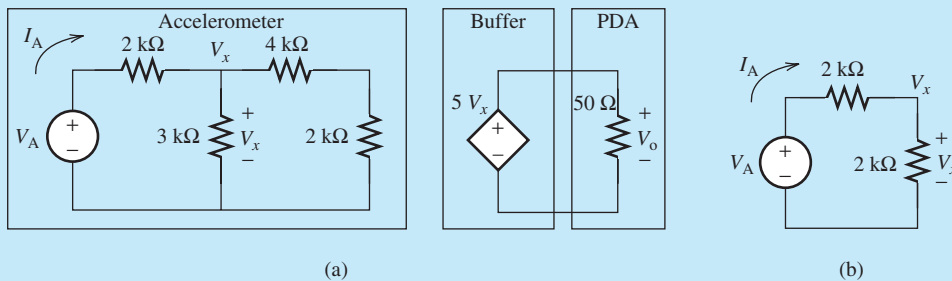

FIGURE 3.42 (a) The circuit model for the accelerometer and the PDA; (b) equivalent circuit for the accelerometer.
To avoid having the PDA overload the accelerometer's resistive network, it is isolated from the accelerometer using a buffer, modeled by the dependent voltage source. The accelerometer gives the acceleration as a varying output voltage, V_A . The voltage, V_A , ranges from 0 to $V_{\max} = 5\text{ V}$. The circuit model is shown in Figure 3.42. To calibrate the accelerometer and the PDA, the inventor needs to find the circuit parameters as follows:
- Figure 3.42(b) shows the equivalent circuit for the accelerometer obtained by finding the equivalent resistance of $3\text{ k}\Omega \parallel (2\text{ k}\Omega + 4\text{ k}\Omega) = 2\text{ k}\Omega$. Using simple voltage division, and taking $V_A = V_{\max}$: